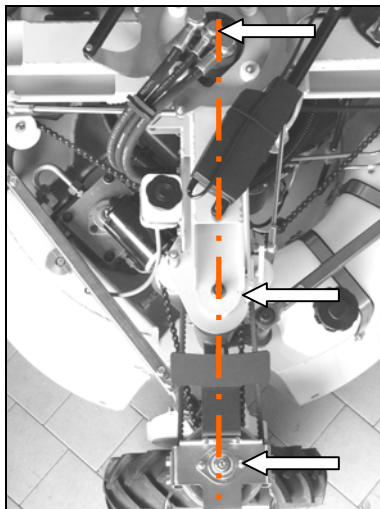

Fig. 87
- Align the axis of the pulley, the axis of the column and the axis of the hydraulic drive (Fig. 87)